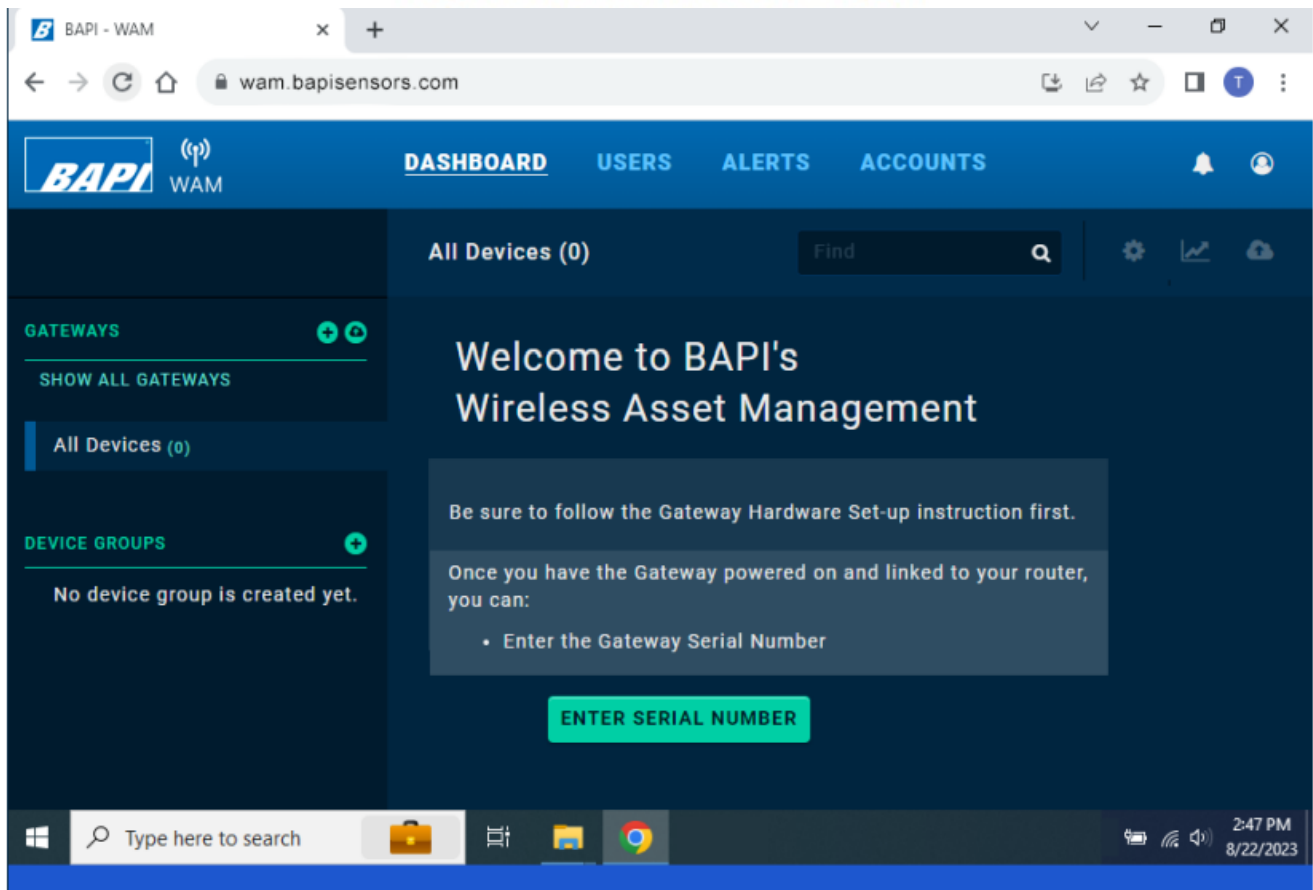
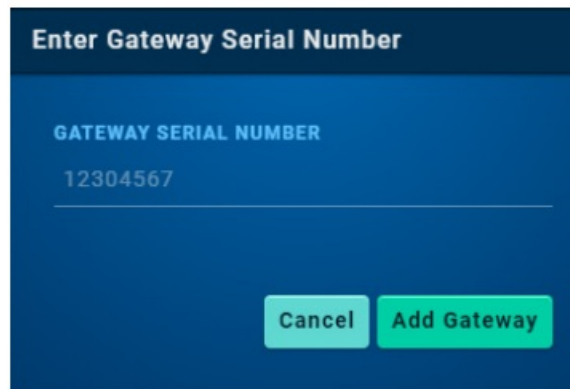

Fig. 6: WAM Website Initial Screen
Fig. 7: Enter Gateway Serial Number Window
- Click the “Enter Serial Number” link, or click on the green “+” icon across from the word “Gateway” in the left menu bar (Fig 6), to open the “Enter Gateway Serial Number” window (Fig 7).